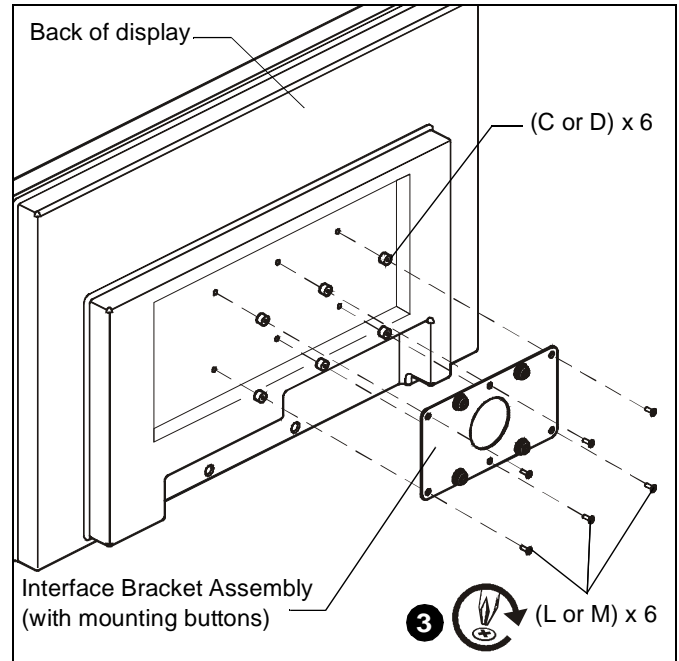

Figure 3
1. Align and place six spacers (C or D) over mounting holes in display back. (See Figure 3)
2. Align and place interface bracket assembly over six spacers (C or D). (See Figure 3)
3. Secure interface assembly to display back using six M4 x 20mm (L) or six M4 x 25mm (M) Phillips flat head screws. (See Figure 3)